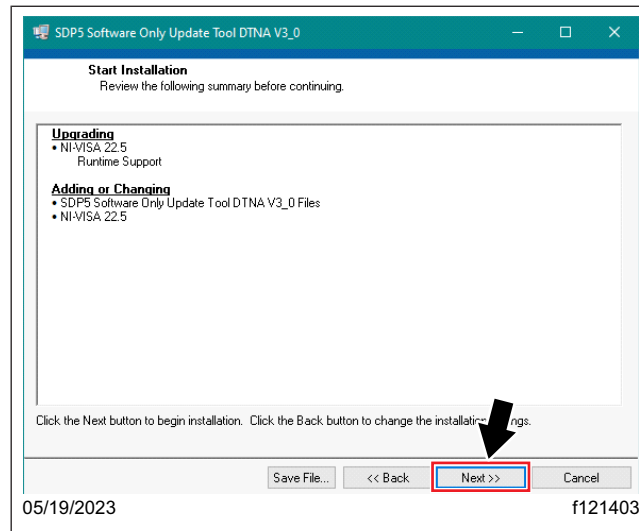

Fig. 10, Beginning the Installation Process
12. Select 'Next' to begin the installation. See Fig. 10.